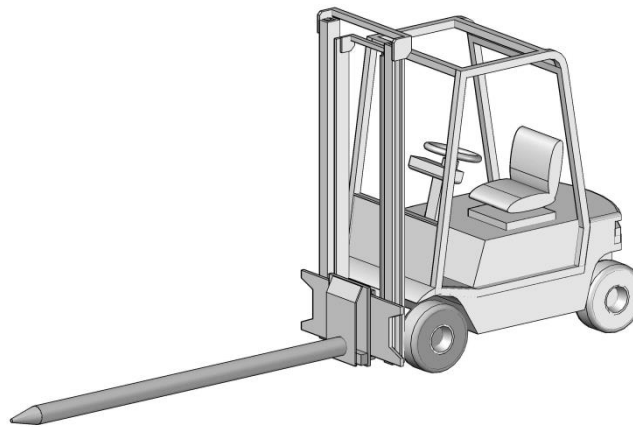

Fig. 2: Forklift with stinger
- A forklift with a pole length $\geq 2/3$ the roll width (carpet stinger) (Fig. 2)